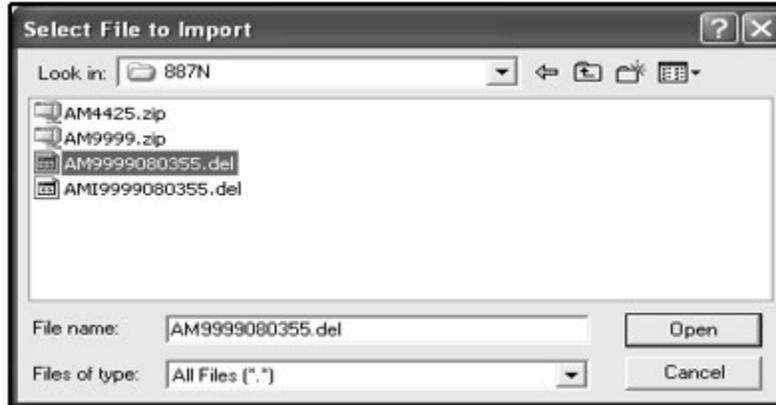

Figure 37. Select File to Import Window
(1) To process the allowance standard update, select “Assemblage Allowance Update File” on the “Navigate” menu. The “Assemblage Allowance Update File” window opens and prompts the user to navigate to the folder in which the import file(s) reside. Only one .DEL file may be processed at a time. Go to the folder where the files reside and select the xxx.DEL file. Select “Open”. Do not select the AM file with the letter “I” in the third position. If the wrong file is selected the system returns an information box indicating the file does not exist. If this happens, select “OK” and select the correct file.
(2) The assemblage information is listed in the Assemblages to Import box (Figure 37). Select the assemblage(s) to import or check the “Select All” box and select “Process”. An information box is displayed with the assemblage information and the options to continue or cancel the process. Select “OK” to update the DMLSS Master UDR file. Once completed, a successfully updated message appears. If “Cancel” is chosen, DMLSS returns to the “Assemblage Allowance Update File” window.